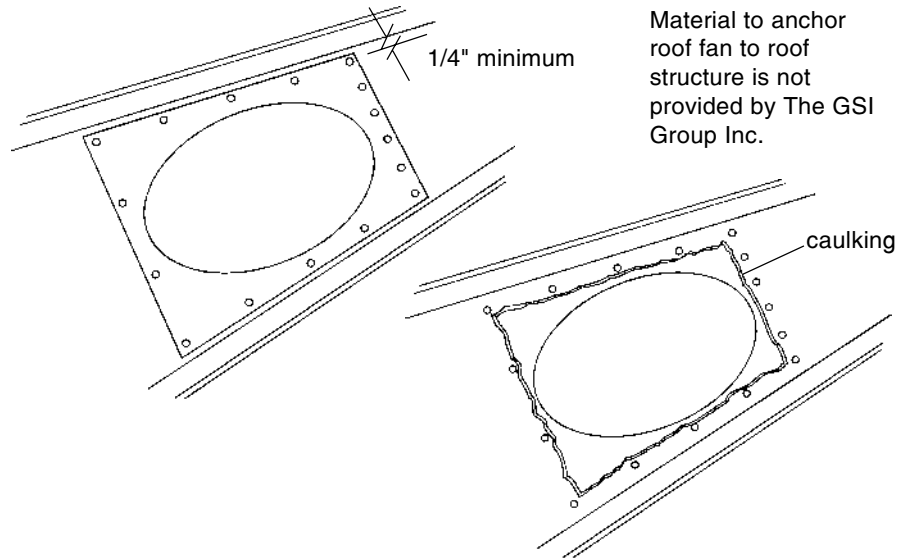

Figure 3: The 18" template location on the roof sheet (left), and the caulking location on the roof sheet (right).
1. Using the loose flange from the fan assembly as a template, position the desired roof fan location, allowing for 1" minimum between the roof sheet rib and the flange. See figure 3. Mark the sixteen(16), 3/8" mounting holes, and elliptical fan mounting hole.
2. Drill the sixteen(16), 3/8" holes and cut out the elliptical hole. Use the caulk provided, which is specified as a seal for metal sheets in an outdoor application, and apply along the inside edge of the drilled holes on the bin roof sheet. See figure 3.